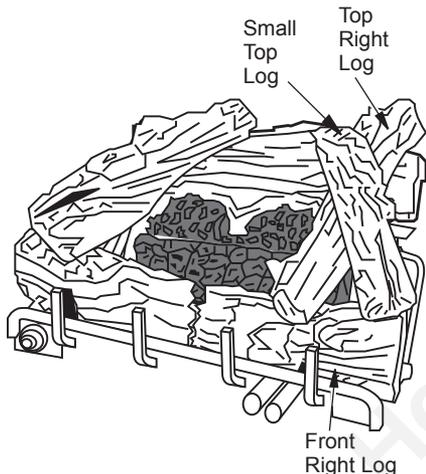

Figure 28 - Installing Log
- Place the small top right log as shown in Figure 28. The bottom of the log is shaped to fit onto the recessed areas of the top right log and the front right log. The recessed areas are painted yellow.